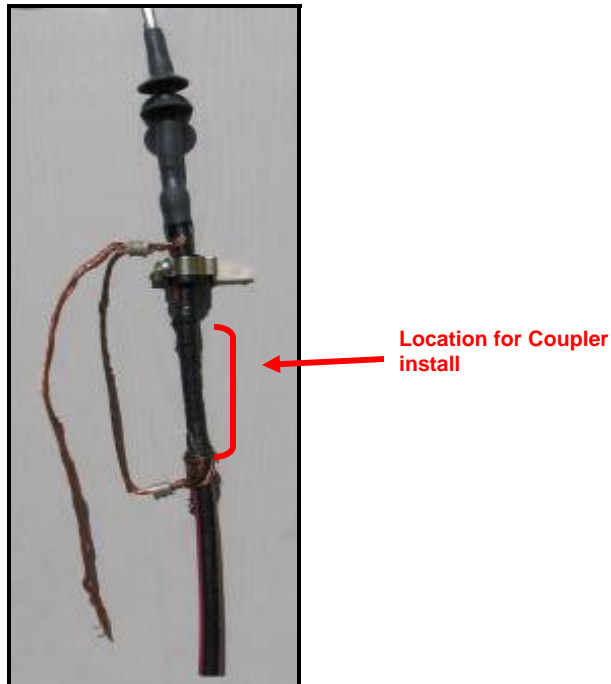

Figure 25 – Concentric Neutral Jumper installed
5. Install two (2) layers of half lapped plastic electrical tape over the top of the exposed semicon. Make sure that the electrical tape is installed starting at the top of the exposed semicon, working down and then back up the semicon.
6. Install a concentric neutral jumper. The end result is shown in *Figure 25*.